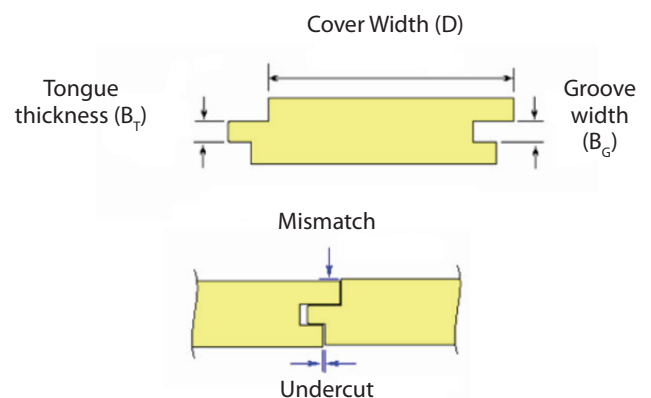

Figure 1. - Terminology
- Undercut or relief - this is the difference between the upper and lower cover width of the boards. Generally an undercut of about 0.5 mm is appropriate for an 80 mm wide board and a little more as board width increases. If the undercut is large and there is significant expansion pressure after installation, 'peaking' (pressure related cupping) can occur. The smaller the undercut, the less the effect. See Figure 1.